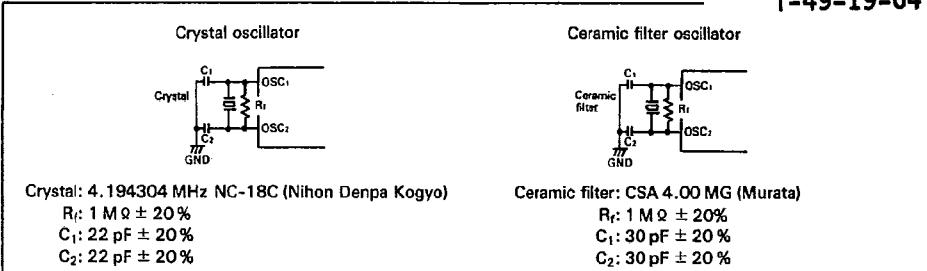

Figure 36. Oscillator Circuit
1. Oscillator stabilization time is the time until the oscillator stabilizes after V_{CC} reaches its minimum allowable voltage (3.5 V) after power-on, or after RESET goes high. At power-on or stop mode release, RESET must be kept high for at least t_{RC}. Since t_{RC} depends on the crystal or ceramic filter's circuit constant and stray capacitance, please get the manufacturer's advice when designing the RESET circuit. (See figure 36)